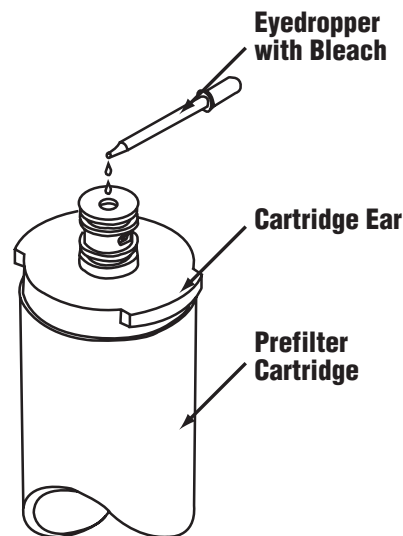

Fig. 10
- 3) Before installing the new cartridge, use an eyedropper to inject one teaspoonful (approximately 5 ml) of household bleach into the center opening of the filter cartridge. The prefilter is located just before the RO membrane cartridge. (See Fig. 10)
- 4) Open the feed water tapping valve and allow the appliance to operate for at least six (6) hours. Drain the storage tank and discard the water. The appliance should be ready to use as soon as the storage tank refills. If any objectionable taste is noticed, then drain the storage tank again and allow it to refill.